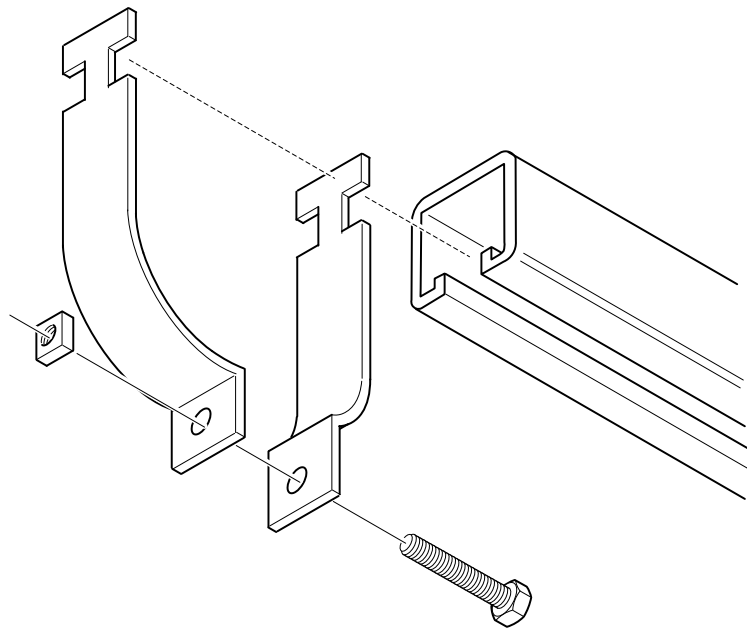

Figure 3-16 ENC82S–Pipe Mount Split Brackets
- 8) Remove screw and nut from both U-brackets (see Figure 3-16).